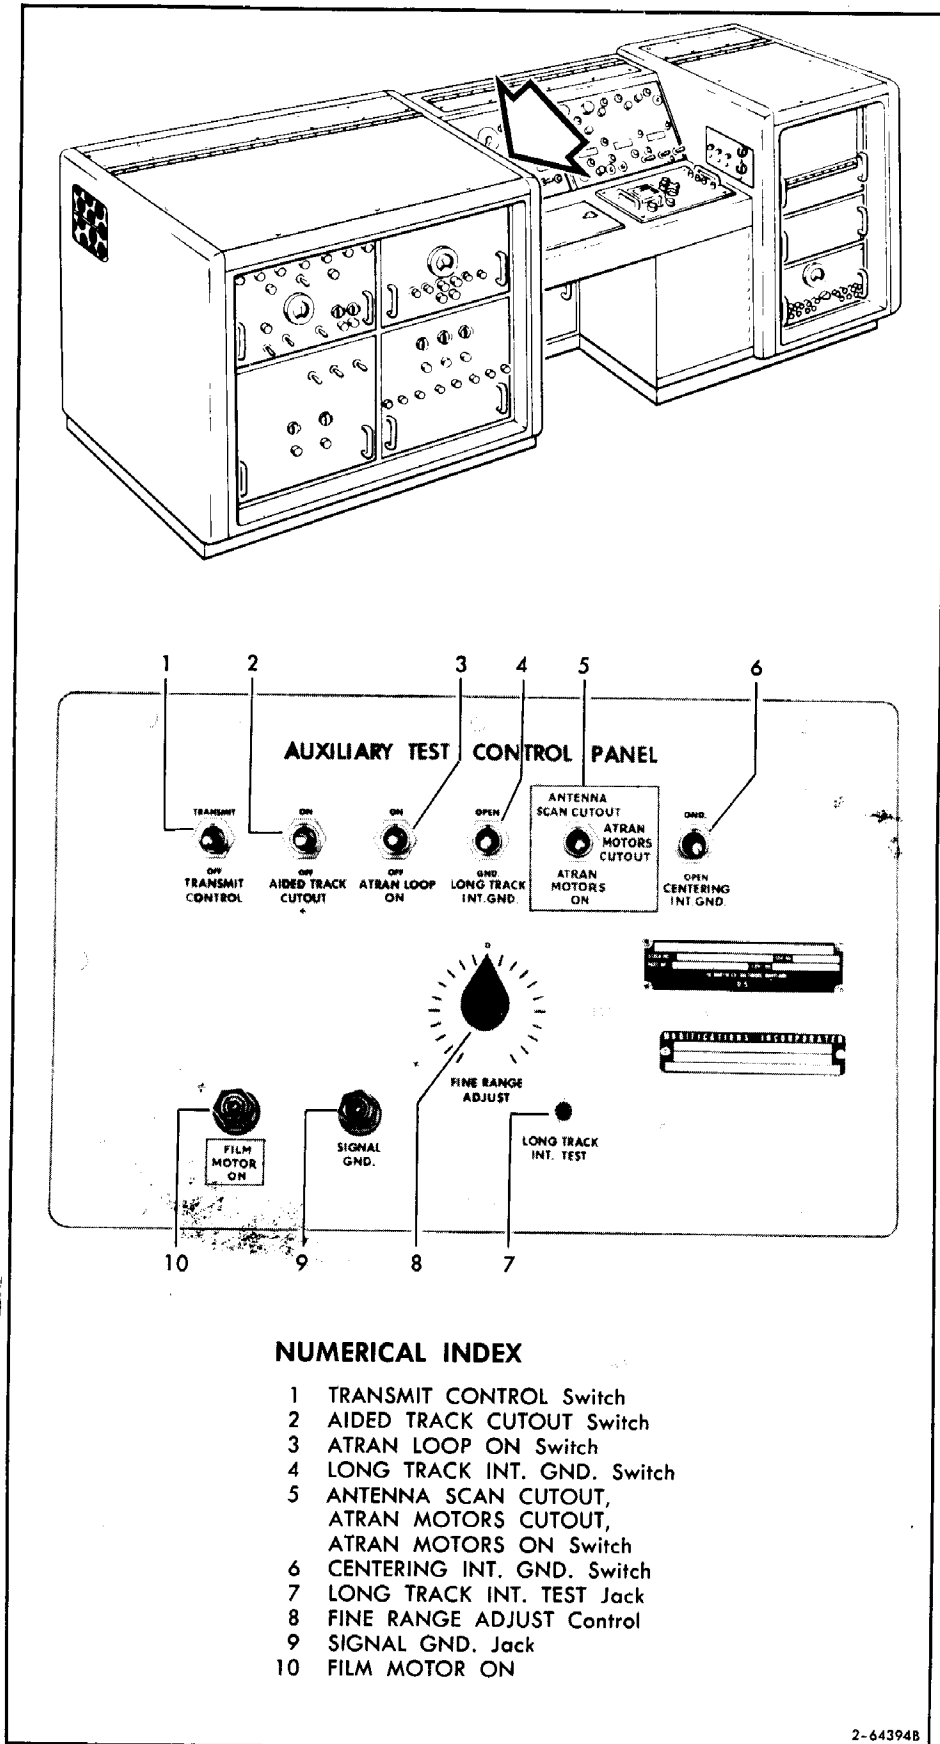

Figure 3-14. Auxiliary Test Control Panel
- c. Place ANTENNA SCAN CUTOUT - ATRAN MOTORS CUTOUT- ATRAN MOTORS ON switch (5, figure 3-14) on Auxilliary Test Control Panel to ANTENNA SCAN CUTOUT.
- k. Place CENTERING INT. GRD. (6) on Auxiliary Test Control Panel to GND momentarily.
- af. If zero is not obtained, place ANTENNA SCAN CUTOUT - ATRAN MOTORS CUTOUT ATRAN MOTORS ON switch (5, figure 3-14) to ANTENNA SCAN CUTOUT, CENTERING INT. GND. switch (6) to GND., and position antenna to 270 degrees; then, repeat steps x through ae.
- ai. Place ANTENNA SCAN CUTOUT - ATRAN MOTORS CUTOUT - ATRAN MOTORS ON switch (5, figure 3-14) to ATRAN MOTORS ON.
- aj. Place CENTERING INT GRD switch (6) to OPEN.
- ak. Place CENTERING SELECTOR switch (17) to LATERAL; CENTERING INTEGRATOR OUTPUT meter (16) must indicate between +3 and -3VDC.
- c. Place ANTENNA SCAN CUTOUT - ATRAN MOTORS CUTOUT - ATRAN MOTORS ON switch (5, figure 3-14) on Auxiliary Test Control Panel to ANTENNA SCAN CUTOUT.
- v. If zero is not obtained, place ANTENNA SCAN CUTOFF - ATRAN MOTORS CUTOFF - ATRAN MOTORS ON switch (5, figure 3-14) to ANTENNA SCAN CUTOFF, CENTERING INT. GND. switch (6) to GND., and position antenna to 270 degrees; then, repeat steps o through u.
- y. Place ANTENNA SCAN CUTOFF - ATRAN MOTORS CIRCUIT - ATRAN MOTORS ON switch (5, figure 3-14) to ATRAN MOTORS ON.
- z. Place CENTERING INT GRD switch (6) to OPEN.
- aa. Place CENTERING SELECTOR switch (17) to LATERAL; CENTERING INTEGRATOR OUTPUT meter (16) must indicate between +3 and -3VDC.
a. Place ANTENNA SCAN CUTOUT - ATRAN MOTORS CUTOUT - ATRAN MOTORS ON switch (5, figure 3-14) on Auxiliary Test Control Panel to ANTENNA SCAN CUTOUT.